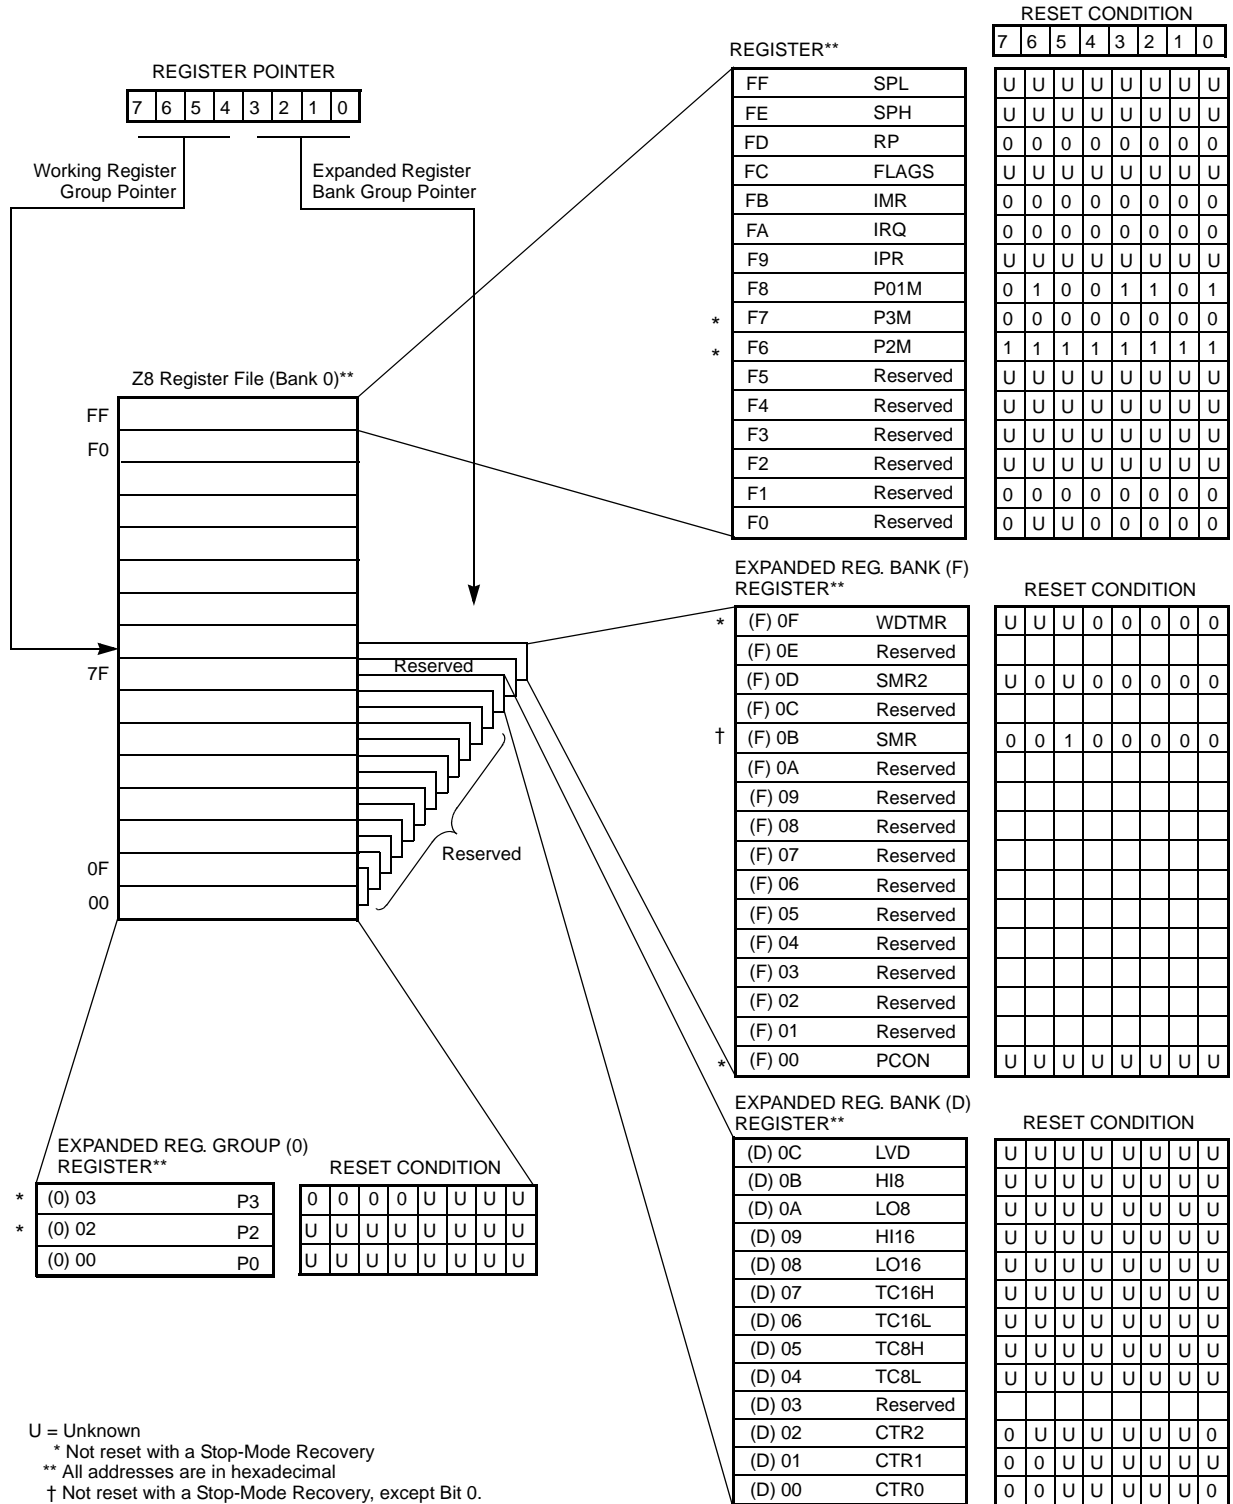
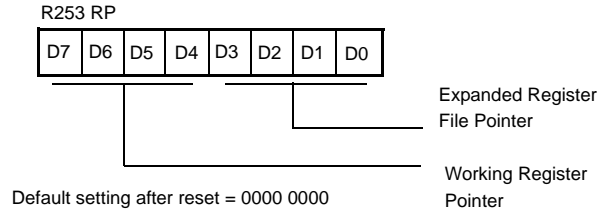

Figure 11. Expanded Register File Architecture
Figure 12. Register Pointer Register
► **Note:** An expanded register bank is also referred to as an expanded register group (see Figure 11).
The upper nibble of the register pointer (Figure 12 on page 22) selects which working register group of 16 bytes in the register file, out of the possible 256, is accessed. The lower nibble selects the expanded register file bank and, in the case of the Z86L82X family, banks 0, F, and D are implemented. A 0h in the lower nibble allows the normal register file (bank 0) to be addressed, but any other value from 1h to Fh exchanges the lower 16 registers to an expanded register bank. For example, for the Z86L82X (see Figure 11):